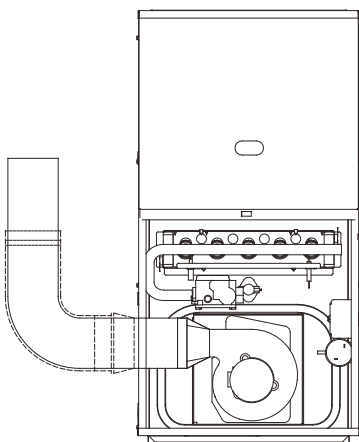

Fig. 6-8 Downflow Application- Vent Elbow Up then Left Pressure Switch Relocated
This furnace can be installed for upflow, downflow and horizontal positions (see Fig 6-8~6-14).
- 1) Downflow Left Side Venting Fig. 6-8
Vent the furnace with the appropriate connector as shown in Fig. 6-8~6-14.
Pressure switch location changes depending on installation. See Figures 6-8 ~ 6-11 for specific location.